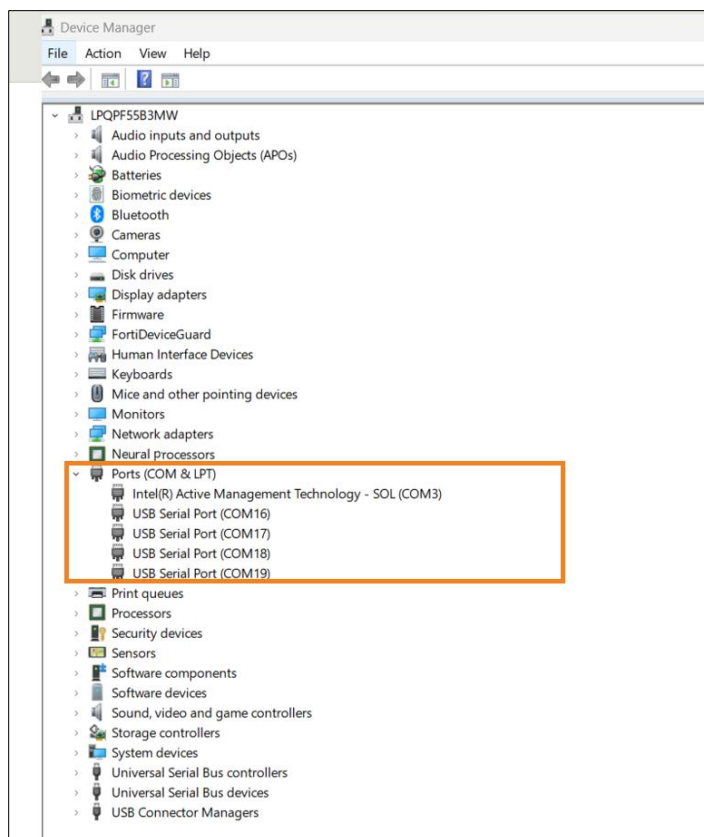

Figure 16.4. Check for COM Ports
1. Power on the board and check the FTDI. Four COM ports are detected, as shown in Figure 16.4.